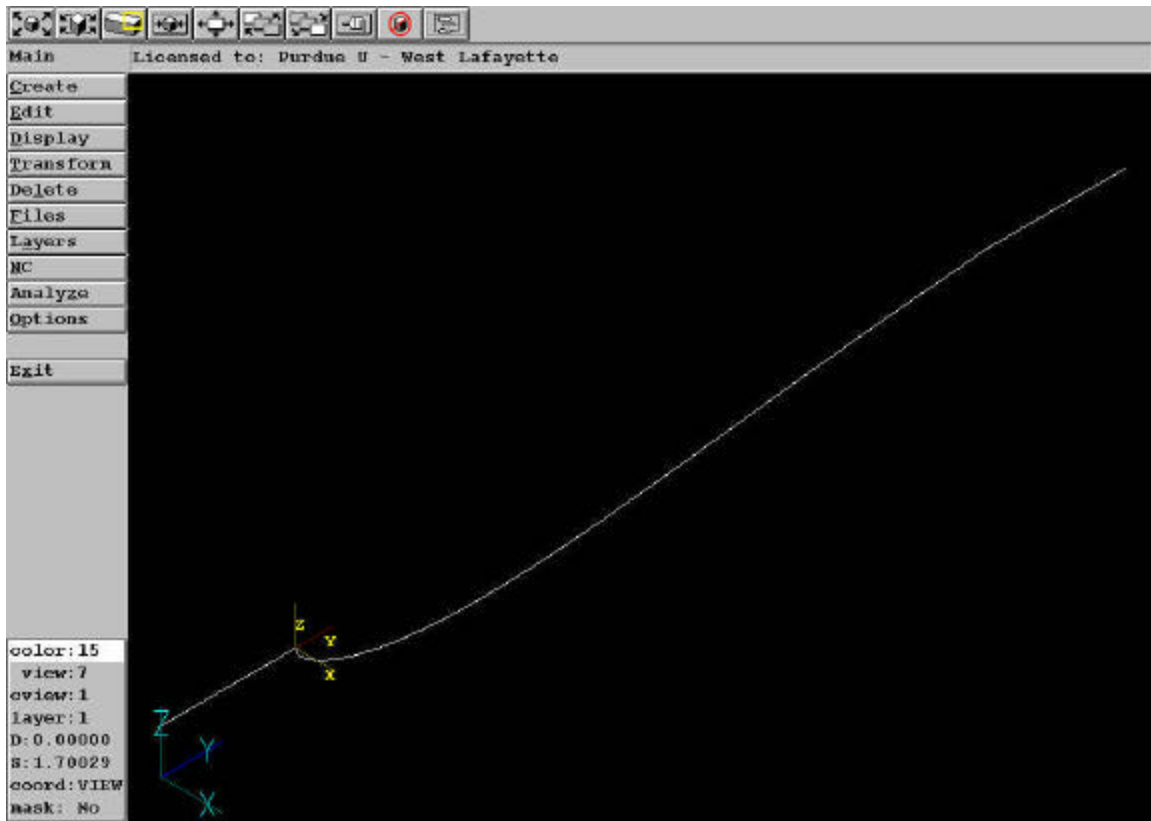

Figure 23: Airfoil ready for mold development
- 15.) Using KEYBOARD one last time, set the end of this line to (0,6,0). There should now be two lines protruding from the front and rear of the airfoil section, as in figure 23.